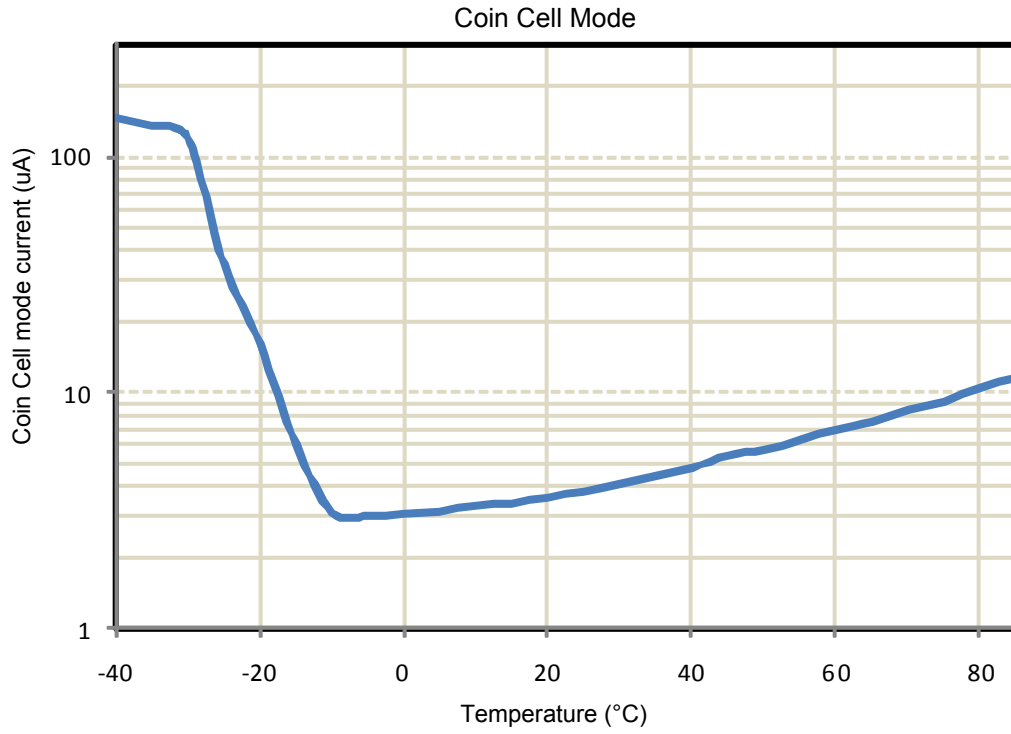

Figure 4. Current Waveforms Over Temperature
16. Refer to Figure 4 for Coin Cell mode characteristics over temperature.